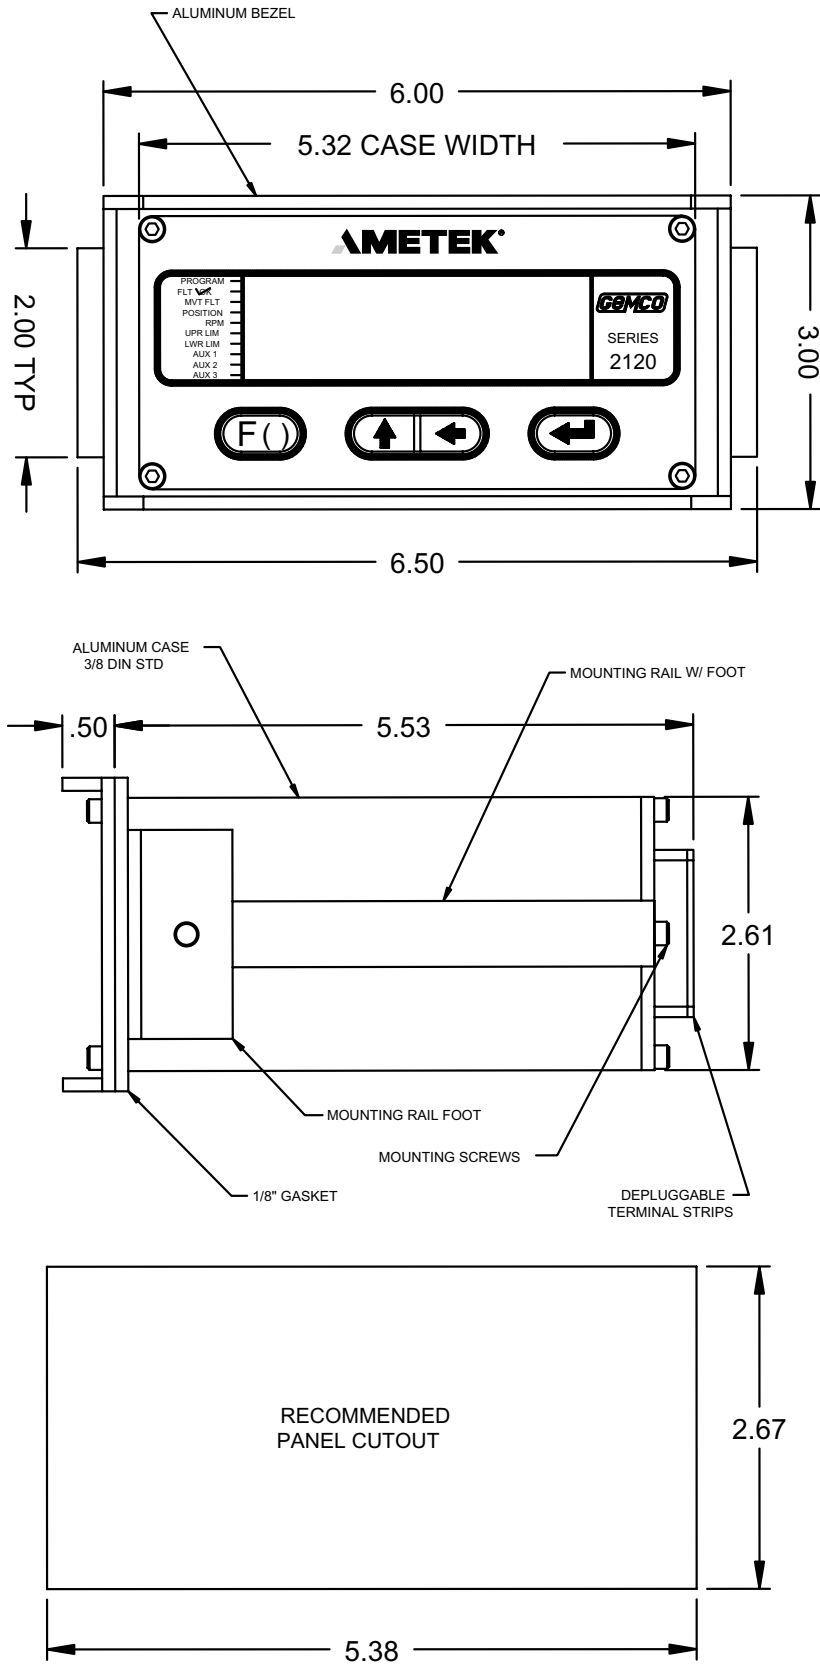

Figure 3-1 Dimensional Drawing
To assist you in mounting the PLC Interface Module, refer to Figure 3-1. Perform the following steps:
1. According to the dimensions as shown in Figure 3-1, cut out a section of the panel you wish to mount the module in.
4. From behind the panel, insert the two mounting rails into the module's side grooves. The feet of the rails must be inserted first. See Figure 3-1 for the location of the mounting rails.